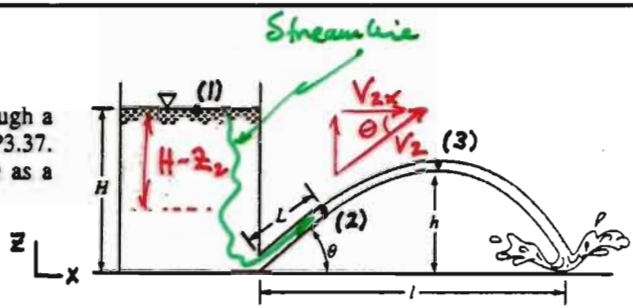

FIGURE P3.37
3.37 Water flows from a large tank of depth  $H$ , through a pipe of length  $L$ , and strikes the ground as shown in Fig. P3.37. Viscous effects are negligible. Determine the distance  $h$  as a function of  $\theta$ .